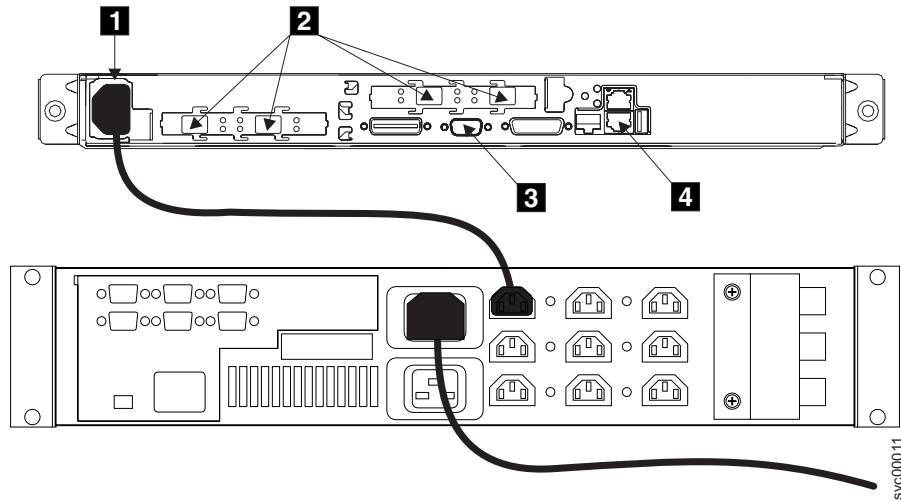

Figure 3. Power cable and signal sockets for the SAN Volume Controller 2145-4F2 and 2145 UPS
2. Ensure that the power cable is plugged into the 2145 UPS. Also, ensure that the other end of the power cable is connected from the 2145 UPS to the distribution point in the rack. Figure 3 shows the connectors for the SAN Volume Controller 2145-4F2 and the 2145 UPS. The power cable connector is shown as **1** in the figure.